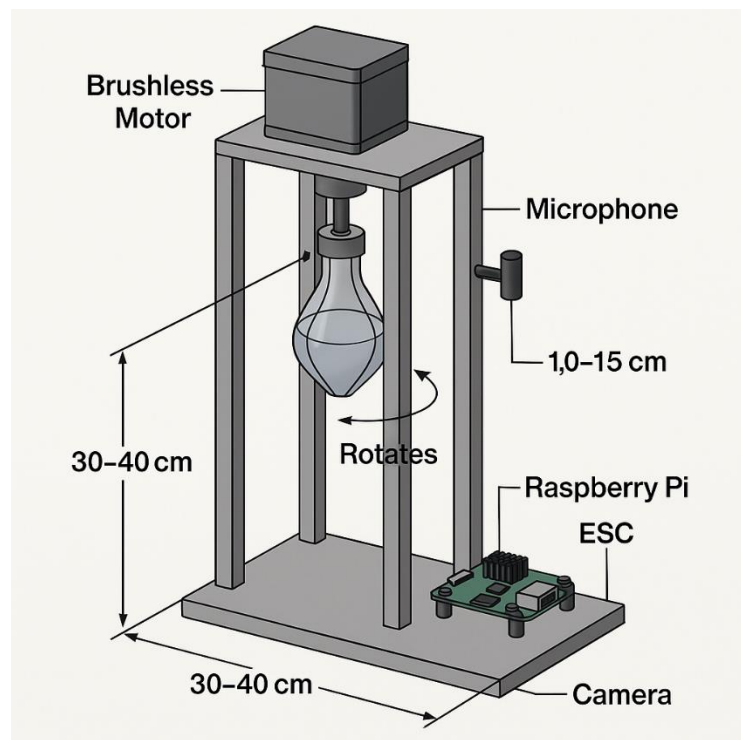

Figure 1: Suggested System
Figure 1: 3D schematic of the CTMFD system with **externally routed wiring**. Key components are labeled, and approximate distances (camera at 30–40 cm, microphone at
- **Visible Wiring:** In this wired version, all connections are routed externally and clearly labeled (as conceptually indicated in Figure 1):
- **Power Supply Wiring:** A **power input** (from a DC source or battery pack) is provided to run the system. In Figure 1, a DC power jack or cable is indicated on the frame. From this **power input**, wiring splits into two leads: one going to the ESC (to provide high voltage for the motor) and another going to the Raspberry Pi (typically 5 V via a regulator or the ESC's built-in BEC). Both of these power wires are drawn externally. The result is that in this version, you can see the power cable feeding the ESC and a smaller 5 V line going into the Pi's power port.
All components are labeled in Figure 1, and their placement matches the functional needs of CTMFD. The externally routed wires make it easy to trace each connection (useful for debugging or initial prototyping), albeit at the expense of neatness. The **brushless motor and spinning bulb** at the top create the metastable fluid conditions for neutron detection, while the Raspberry Pi (with camera and microphone) monitors the bulb for any sign of a radiation event. This layout is robust and has all parts accessible, as would be desired in a research setting.
Both the wired and concealed-wiring versions share the same underlying design and functionality; the choice between them would depend on use-case. The **externally wired setup** (Figure 1) is easier to assemble or modify, useful during prototyping and testing when one might swap components or re-route connections. The **internally wired setup** (Figure 2) is suited for a finished product or deployment unit, where permanence and protection of cables are important. In either case, the CTMFD's critical geometry — a motor-driven fluid bulb on an open frame — remains consistent, as does the placement of the camera and microphone for monitoring the detector's activity. This configuration aligns with documented designs where the spinning fluid-filled bulb is attached to a motor in an open apparatus, and it leverages modern compact electronics to create a self-contained, field-capable neutron detection system.